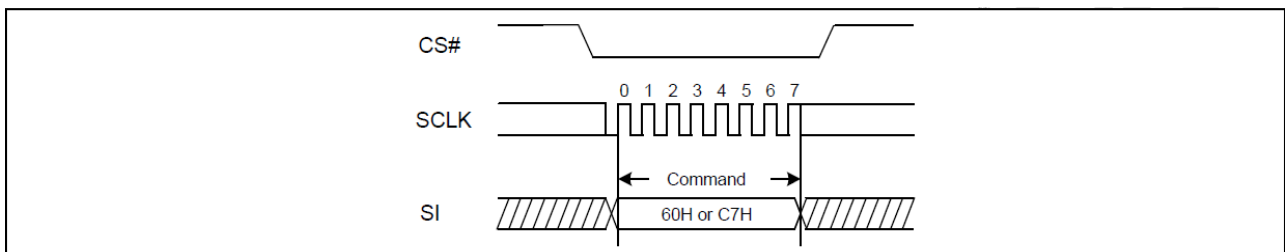

Figure19. Chip Erase Sequence Diagram
The Chip Erase command sequence: CS# goes low→sending Chip Erase command→CS# goes high. The command sequence is shown in Figure19. CS# must be driven high after the eighth bit of the command code has been latch in, otherwise the Chip Erase command is not executed. As soon as CS# is driven high, the self-timed Chip Erase cycle (whose duration is t_{CE}) is initiated. While the Chip Erase cycle is in progress, the Status Register may be read to check the value of the Write In Progress (WIP) bit. The Write In Progress (WIP) bit is 1 during the self-timed Chip Erase cycle, and is 0 when it is completed. At some unspecified time before the cycle is completed, the Write Enable Latch (WEL) bit is reset. The Chip Erase (CE) command is executed if the Block protected by (BP2, BP1, BP0) bits. The Chip Erase(CE) command is ignored if one or more sectors are protected. Note: Power disruption during erase operation will cause incomplete erase, thus recommend to perform a re-erase once power resume.